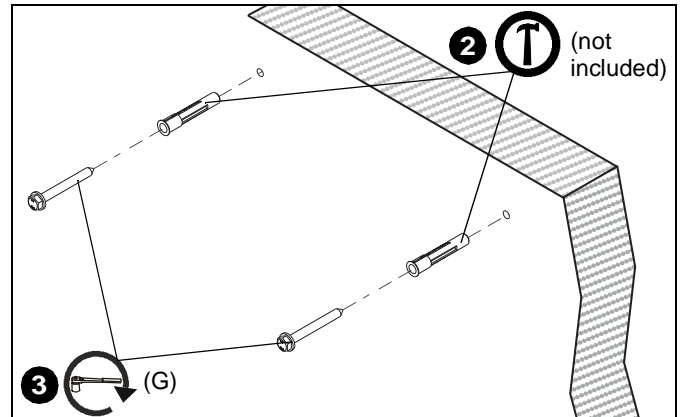

Figure 5
2. Install one Fischer UX10x60R anchor (not included) into each pilot hole using a hammer, making sure that the anchor is flush with the wall. (See Figure 5)
3. Use one 5/16" x 3-1/2" lag bolt (G) through the strut channel (B) [landscape installation ONLY], the PSMO2085 into each anchor in wall.